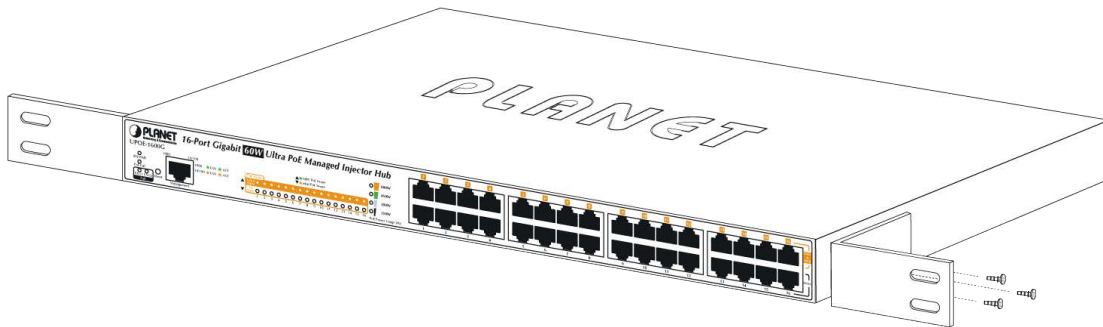

Figure 2-2-2: Brackets attaching to the Ultra PoE Managed Injector Hub
Step 2: Attach a rack-mount bracket to each side of the Ultra PoE Managed Injector Hub with supplied screws attached to the package. Figure 2-2-2 shows how to attach brackets to one side of the Ultra PoE Managed Injector Hub.